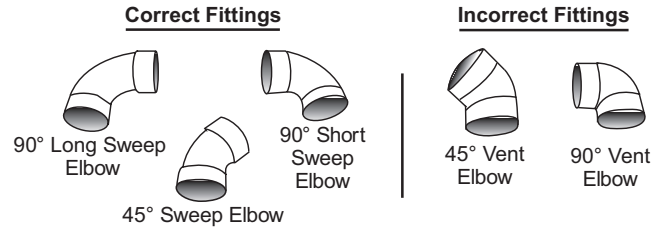

Figure 11. Correct and Incorrect Pipe Fittings
IMPORTANT: Do not use vent elbows in this vent pipe installation. See Figure 11.
*Refer to Figure 11 for Inlet/Outlet Location Dimensions